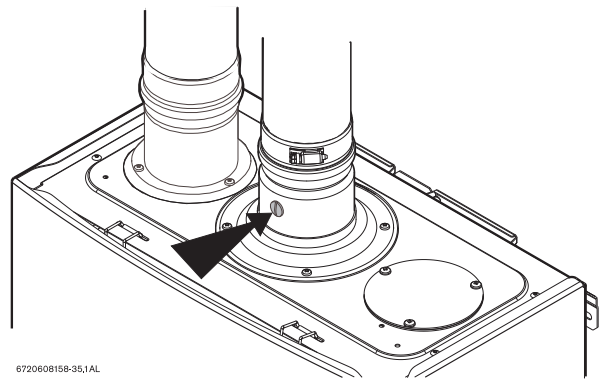

Fig. 57 Measuring port
- ▶ Remove brass flat head screw on the exhaust collar as seen in Fig. 57.